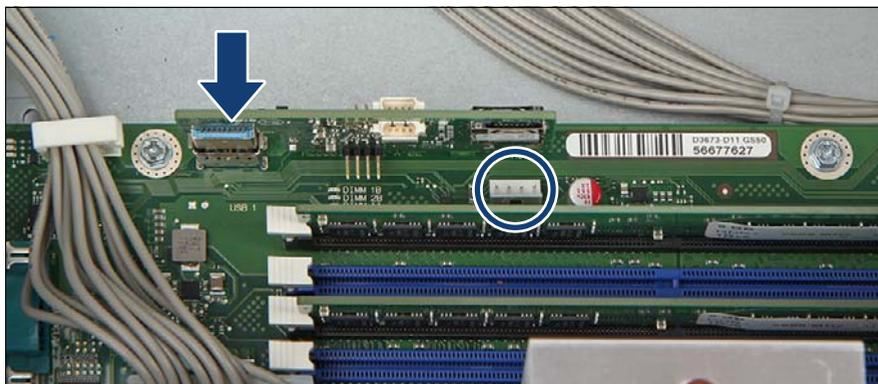

Figure 292: Installing the Dual microSD 64GB Enterprise
- ▶ Disconnect the cable from the connector "ROC" on the system board (see figure 292).